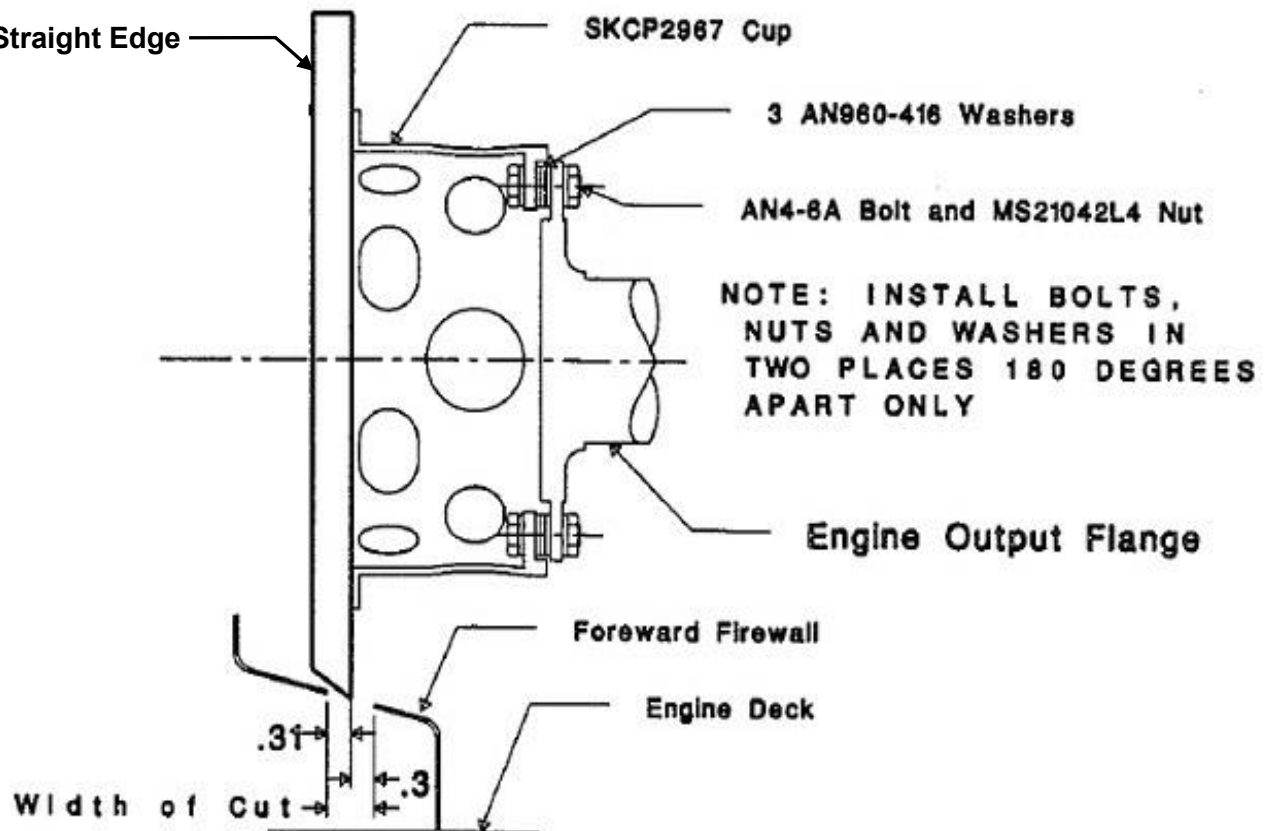

FIGURE 4: Method of transferring line to firewall for firewall cutout
- b. Temporarily install SKCP2967-13 cup on engine output flange using 2 bolts, nuts and washers per drawing number SKCP3052 **EXCEPT: Do not install rotor brake disk (see Figure 4).** Install bolts, nuts and washers in two places per Figure 4. Do not torque bolts per the drawing; bolts need only be tight enough to hold mount lugs and washers in contact.
- e. Proceed to mark lines for rotor brake disk firewall cutout per Figure 4. Marking lines per Figure 4 should result in lines located per SKCP3053. Measure and mark 2.5-2.65" on either side of the center established in Item "d" above.